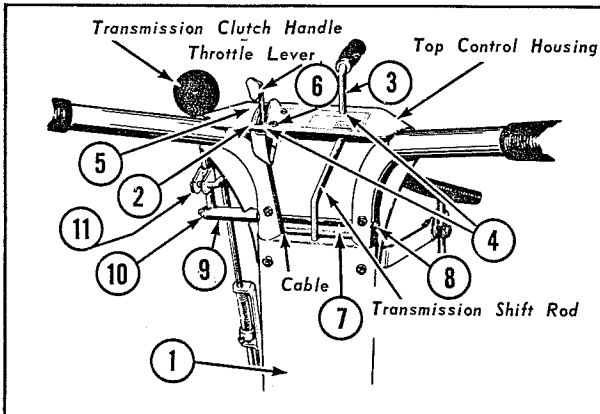
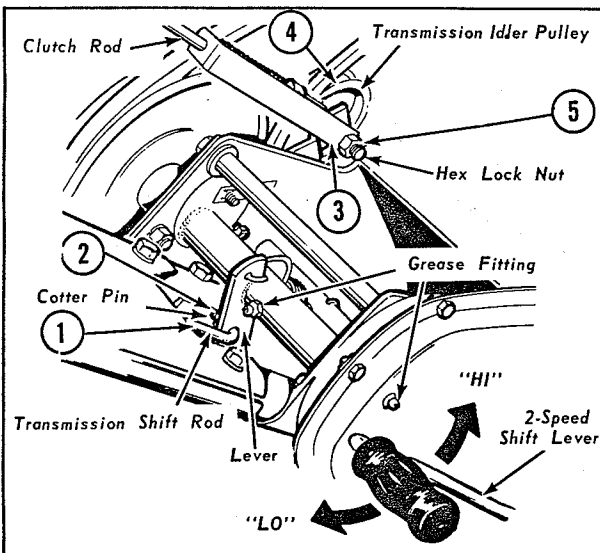

Figure 2
Figure 3
1. Connect the lower end of the clutch rod #3, Fig. 3, to the idler pulley #4, Fig. 3, using a 3/8"-16 lock nut #5, Fig. 3. The lock nut should be tight enough to remove the side-play, but, loose enough to allow the bracket to pivot freely.
2. Assemble the handle covers, #1 in Fig. 2, with the throttle control #2 and cable placed between them, to the front and rear of the handles. At the lower mounting holes of handle covers, insert two 1/4"-20 x 1 1/2" long hex bolts and secure with 1/4" lockwashers, and 1/4"-20 hex nuts. *Do not tighten securely at this time.*
3. Insert the shift rod #3, Fig. 2, through the round hole in the top control housing #4, Fig. 2, and down between the handle covers. Hook the lower end #1, Fig. 3, of shift rod through the shift lever #2, Fig. 3, and fasten in place with a cotter pin.
4. Bring the throttle lever #5, Fig. 2, up through the slot in the top control housing #4, Fig. 2, and fasten in place with two self-tapping screws #6, Fig. 2.
6. Insert the clutch lever pivot pin #7, Fig. 2, through the handles and secure with a cotter pin #8, Fig. 2, as shown at right handle. Position the clutch lever #9, Fig. 2, over the left end of the pivot pin and secure with a cotter pin #10, Fig. 2.
7. Assemble the upper end of the clutch rod #11, Fig. 2, to the clutch lever using a cotter pin as shown.
The 26" Sno Away has two speed ranges operated by the shift rod shown in Fig. 3.